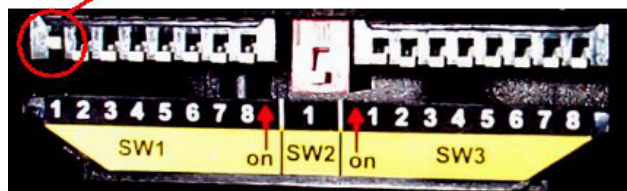

Figure 2-1 Pelco Spectra III SW Switch Settings
1. Set SW 1-1 to **ON** position. All other switches off. (*Figure 2-1*).